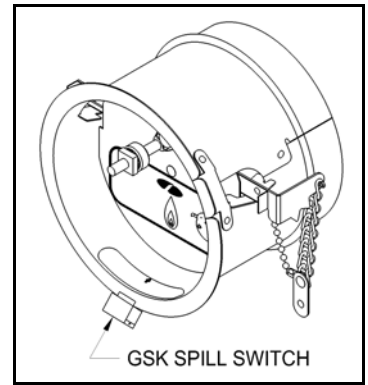

Figure 7
DRAFT CONTROLS (See Figures 7 & 8)
1. Locate the spill switch along the bottom edge of the draft control ring. (See Figure 7) Mark and drill a 5/32" dia. hole through the ring.